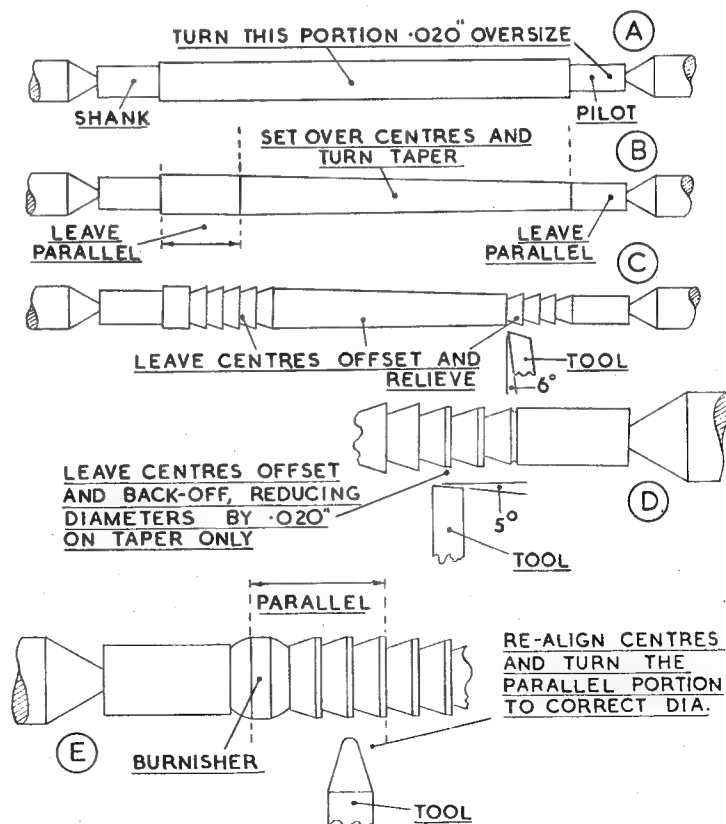

Fig. 3
The drawing, Fig. 3, which shows a simple method of making broaches, of which more later, also shows that a portion of the broach is left parallel. This part of the broach determines the finished size. As the broach is parallel at this point, the lands need not be backed off, although a very light stoning-back can be undertaken.
Having used round broaches for many years, I have evolved a simple method of making these entirely on the lathe, entailing nothing more than plain turning operations, and the system is set out, in machining sequence, in Fig. 3.
The procedure for making this broach is the same as that shown in Fig. 3, except that the teeth are not plunge-cut, but are formed by traversing, as in screwcutting. This type of broach is probably more suitable than any for amateur production.
In making these broaches a slightly different procedure is followed from that of the round type. Both the shank and pilot are turned as in (A) Fig. 3. Lathe centres are then set-over, as in (B), and the taper formed, but in this instance it is finished *dead to size*. This will be, of course, the across-corner measurement of the hexagon or other figure. The short, parallel portion on the main body is again retained. The desired section may now be formed by milling or by the filing rest.
Again transferring the work-piece to the off-set centres, the teeth are formed in exactly the same way as is shown at (C) Fig. 3, but it will not be possible to form a backed-off edge on the whole circumference of the material, due to the fact that the tool will remove most material from the corners. The result is depicted in Fig. 5. Failing a complicated milling set-up, the only alternative is to relieve the flats by careful filing almost up to the cutting edges. The final backing-off on the lands may be done with a slipstone.